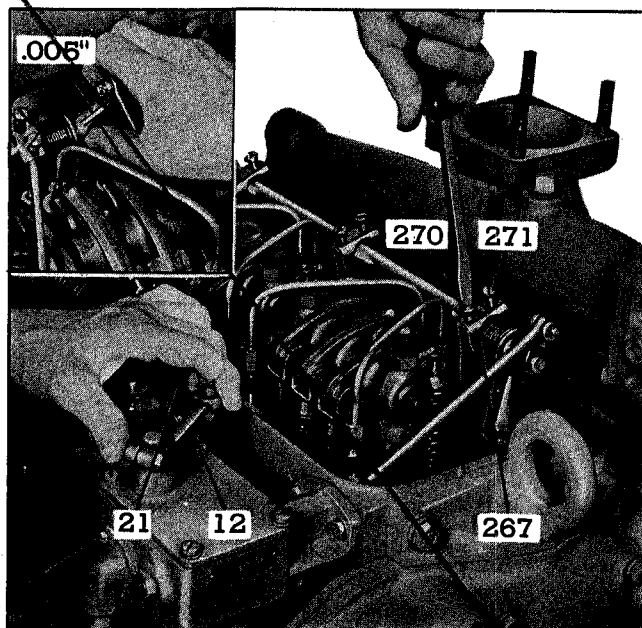
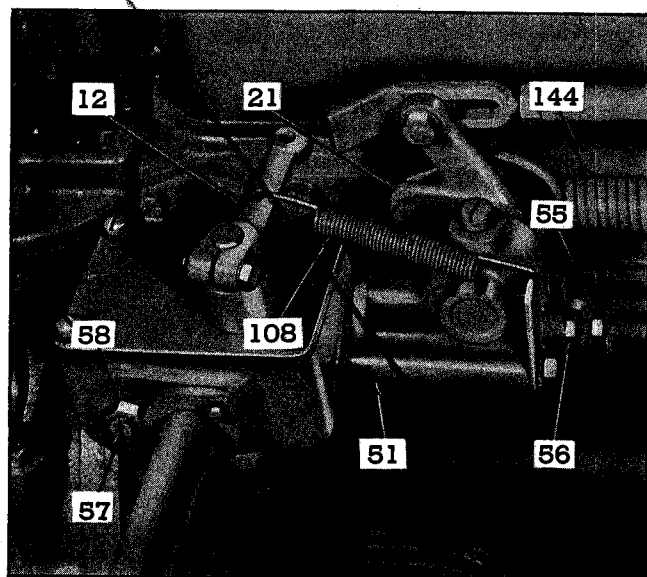

Fig. 10—Positioning No. 1 Injector Rack Control Lever.
Fig. 12—Buffer and Idle Speed Adjusting Screws.
1. Loosen lock nut (58), Fig. 12 and back off buffer screw (57) approximately $\frac{5}{8}$ ".
2. Loosen all inner adjusting screws (270) and outer adjusting screws (271). Be sure all control levers (267) are free on the injector control tube.
3. Place governor control lever (12) and speed control lever (21) in FULL FUEL position as shown in Fig. 10.
4. Turn inner adjusting screw (270) down until a slight movement of the governor control lever (12) is observed. Tighten outer adjusting screw.
injector control tube lever as shown in Fig. 10. This movement should not exceed .005".
- Refer to Fig. 12 and disconnect booster spring
- Place governor control lever (12) in the RUN position and the speed control lever (21) in IDLE position as shown in Fig. 12.
- With engine operating, loosen lock nut (56). Turn idle adjusting screw (55) until engine idles at approximately 15 r.p.m. below the recommended idle speed.
- Refer to Fig. 12 and loosen booster spring retaining nut on speed control lever (21). Loosen nut and lock nut on eyebolt at opposite end of spring (144).
- Move bolt up or down in slot of lever (21) to a position that will allow speed control lever to move from the FULL FUEL position to the IDLE position. Hold bolt and tighten spring retaining nut.